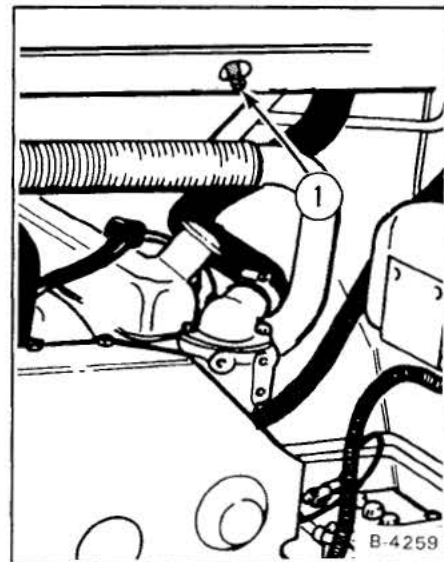

**Fig. 62** Cleaning Battery Terminals
3. Clean the terminal posts (Fig. 62) of the new battery in the engine compartment. Install the holddown clamp.